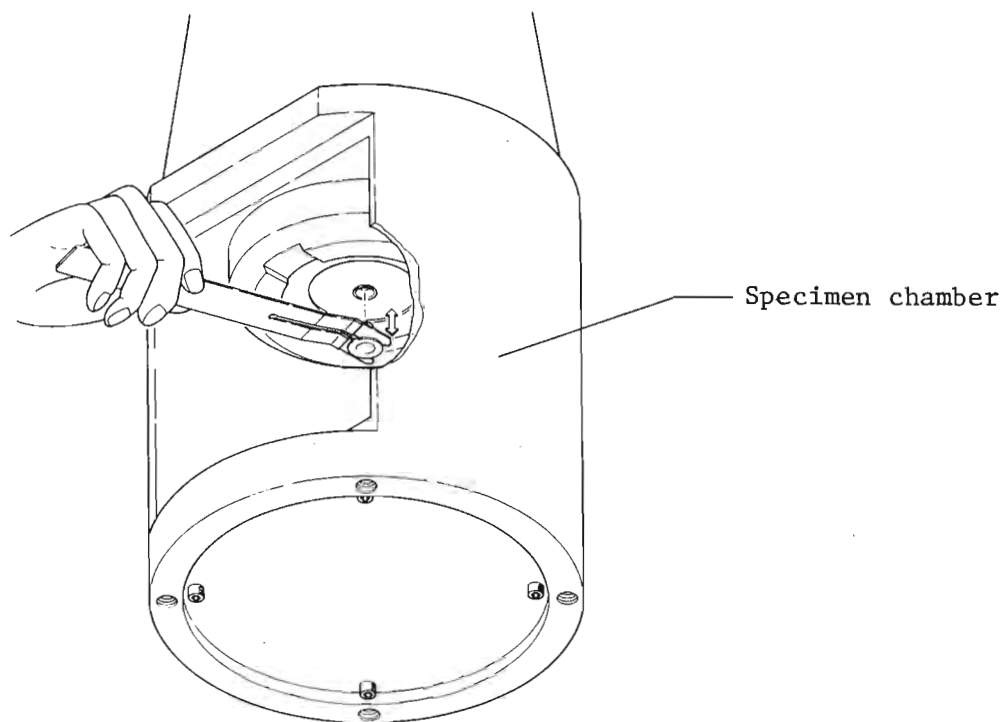

Fig. 5.7 Removing the objective lens aperture
3. Remove the objective lens aperture holder with the aperture holder removing tool (see Fig. 5.7).
8. Return the aperture holder to the objective lens pole piece (Fig. 5.7).